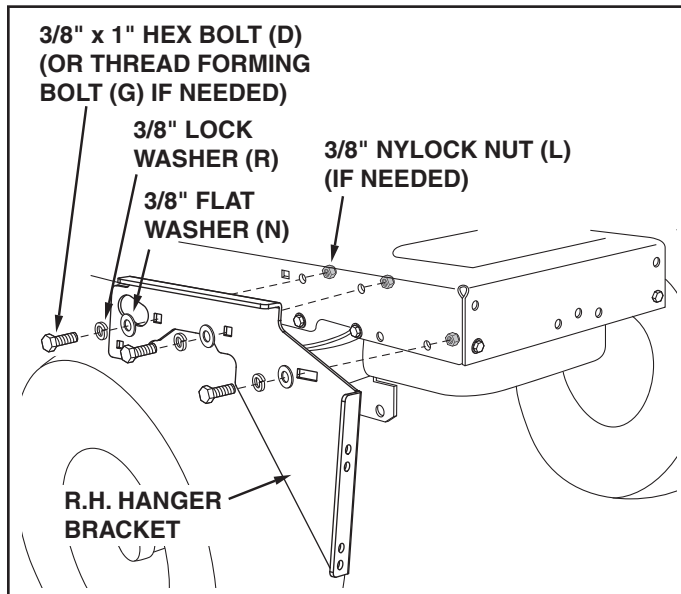

FIGURE 8
STEP 8: (SEE FIGURE 8)
- Attach the R.H. hanger bracket to the three holes shown on the side of the tractor frame using three 3/8" x 1" hex bolts (D), 3/8" lock washers (R) and 3/8" flat washers (N). Use 3/8" nylock nuts (L) on inside of frame if bolts insert freely into holes. **Tighten.**